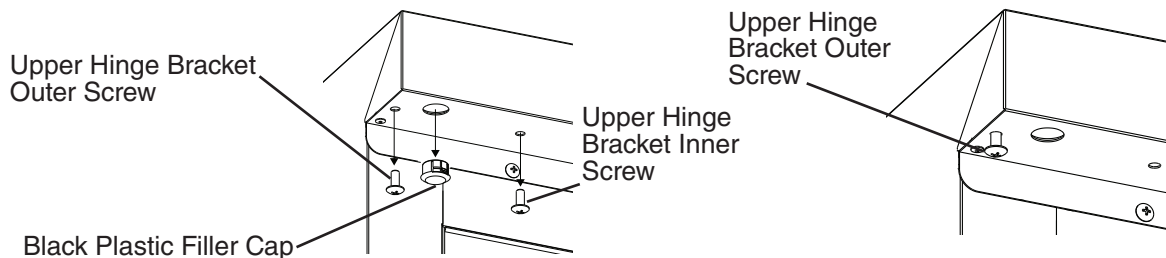

Fig. 26
- 15) Remove the upper hinge bracket screws from the new location and apply Loctite Threadlocker Blue 242 or 243 to the threads. Next, start the upper hinge bracket outer screw into the appliance. Rotate a few threads into the appliance; do not tighten the screw. See Fig. 26.